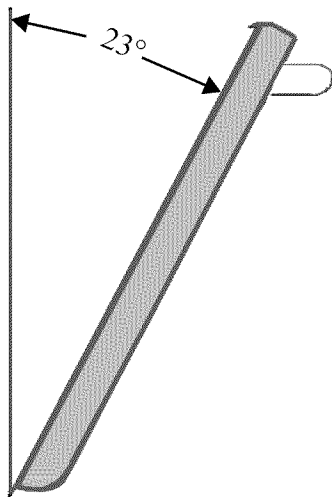

Figure 23: Approximate Door Angle for Removal
3. Close the door until it stops against the hinge clips. The open hinge clips will hold the door open at a slight angle (see *Figure 23*).
1. Position the door at a sharp angle (see *Figure 23*) and insert the hinges centered evenly into the hinge slots. The hinges will securely hook into the slots when properly installed. Do not force, bend, or twist the door.